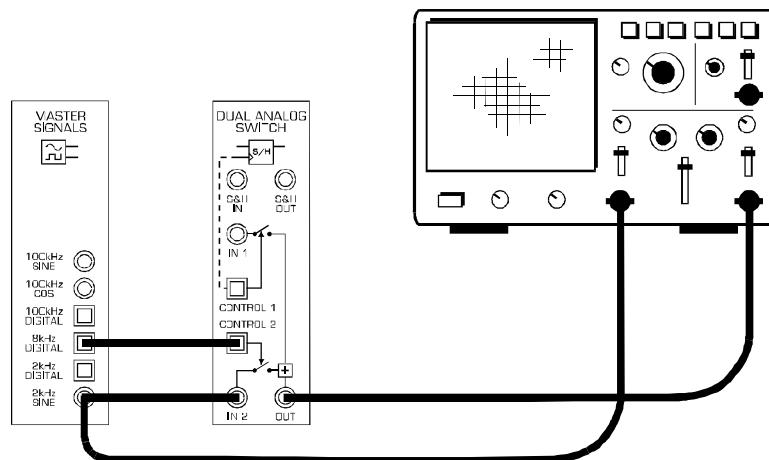

Figure 2
2. Connect the set-up shown in Figure 2 below.
The set-up in Figure 2 can be represented by the block diagram in Figure 3 below. It uses an electronically controlled switch to connect the message signal (the 2kHz SINE output from the Master Signals module) to the output. The switch is opened and closed by the 8kHz DIGITAL output of the Master Signals module.